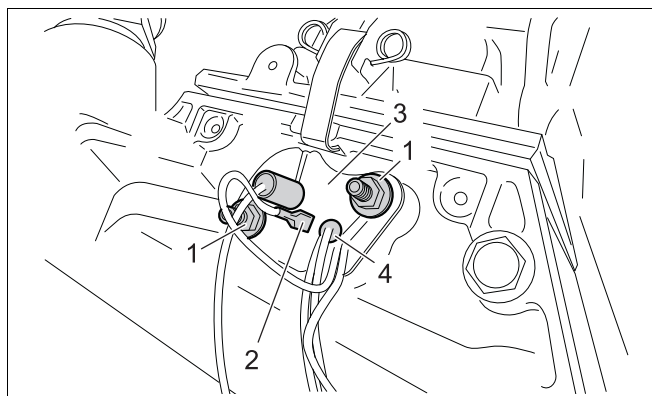

fig. 24 Replacing the hot surface ignitor
- Loosen the fastening screws (fig. 24, pos. 1).
- Remove the earth cable (fig. 24, pos. 2).
- Remove the mounting plate (fig. 24, pos. 3).
- Remove the hot surface ignitor (fig. 24, pos. 4).
- Install the new hot surface ignitor with a new gasket and attach the mounting plate with fastening screws (see fig. 24, pos. 1).